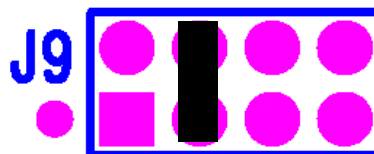

Figure 2: Output Voltage selection jumpers
**STEP 4:** Select the output voltage setting jumper. Figure 2 shows what output voltages are achieved by selecting each jumper position. Populating multiple jumper positions will allow you to select higher output voltages. You can populate up to all four jumper positions for the highest  $V_{OUT}$  of approximately 3.73V with the resistors populated on the board.